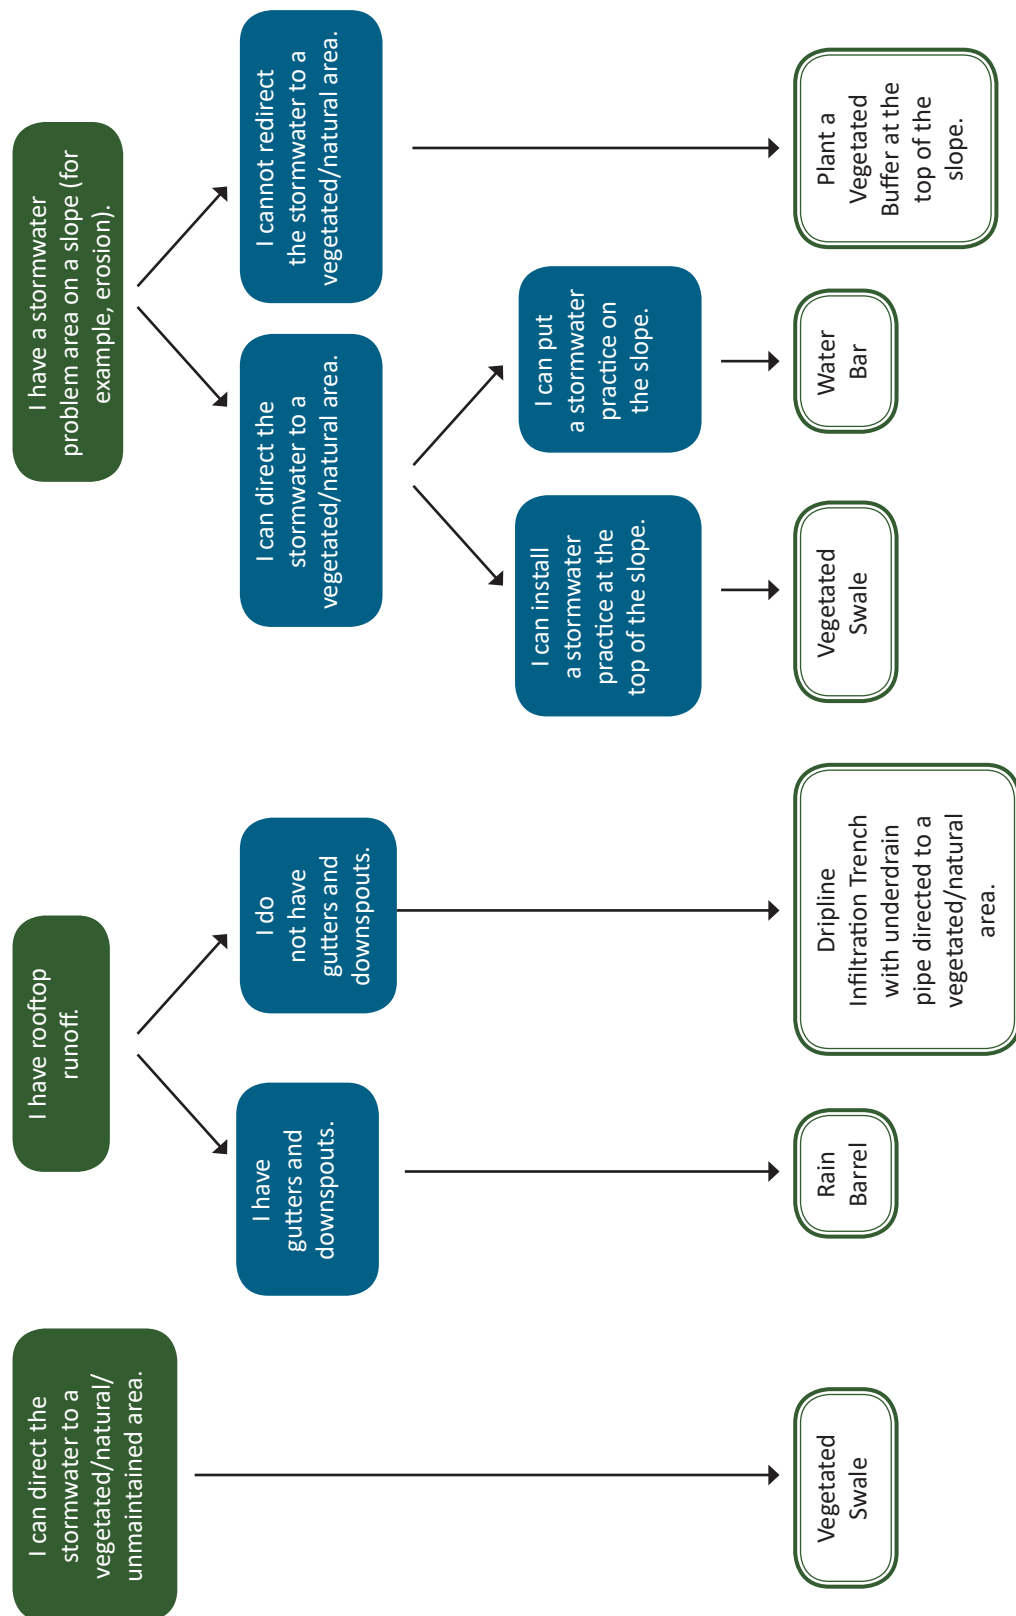

Figure 2 – An infiltration test is performed to determine how well the soil will absorb and infiltrate runoff.
- Place a ruler or yard stick in the hole. Note the water level and time. After 15 minutes, check the water level again and note the new water level. Multiply the change in water level by four to get the number of inches of infiltration per hour. A rate of at least $\frac{1}{2}$ -inch per hour indicates that the soil is appropriate for an infiltration practice. See Figure 2.
While the primary purpose of the practices in this guide is to address stormwater runoff and pollution, there is an opportunity to provide additional benefits to the ecosystem and greater community through thoughtful design. For example, incorporating native plants provides the added benefit of providing a food source for native pollinators. Using locally grown plants or locally sourced wood and stone products supports local businesses and reduces energy required for transportation. This concept of “stacking functions” is discussed in more detail in the box on the following page. Examples of incorporating additional ecosystem benefits to stormwater practice designs are shown in Figure 1 below and Figure 2 on the next page.